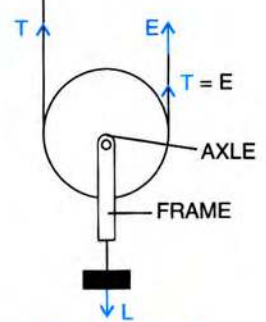

Fig. 3.22 Single movable pulley
single movable pulley suspended by passing an inextensible string of negligible mass around its grooved rim. The load L to be raised is suspended from its axle. One end of the string is tied to a hook H at a rigid support and the effort E is applied at its free end. The tension T acts on the string on both sides of the pulley as shown in Fig. 3.22.
In Fig. 3.22, if we neglect (1) the friction in the pulley bearings or at the axle, and (2) the weight of the pulley and string, the load L is balanced by the tension T in *two* segments of the string and the effort E balances the tension T at the free end, so